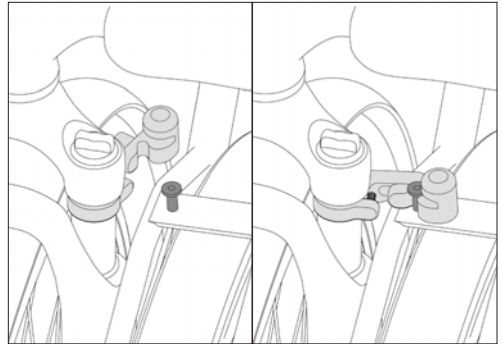

Fig. 34: Lock the folded bike together with hook.
7. The two halves of the frame can be locked together with a hook located on the front fork, which grasps a post on the rear rack. Press the hook into the post on the rear rack until it clicks into place. (Fig. 34).
5. Unlock the two halves of the frame by detaching the fork latch from the post on the rear rack (Fig. 34, page 37).